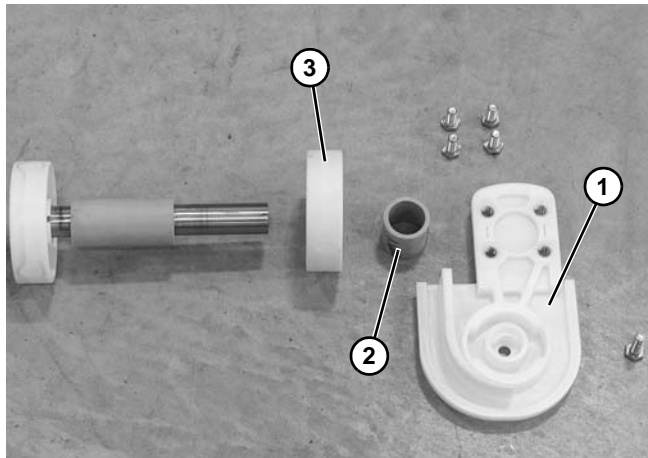

Figure 58
5. Slide the headplate (**Figure 58, item 1**) off the shaft.
6. Slide off the round puck spacer (**Figure 58, item 2**).
7. Slide off the puck and replace (**Figure 58, item 3**).